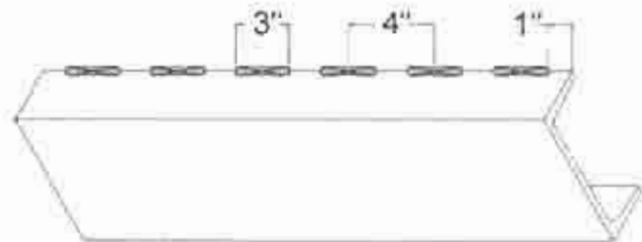

Fig. 1
- Use skip welding procedure (Fig. 1).